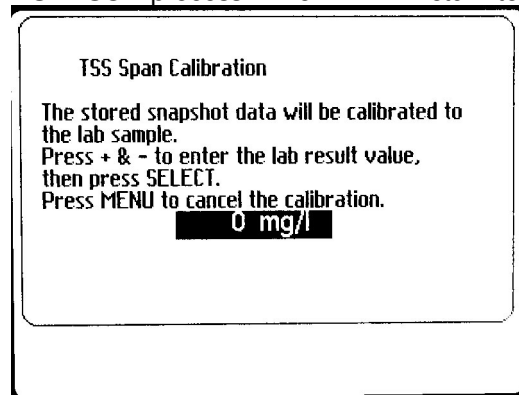

Figure 33 - TSS Span Calibration
4. On the TSS SPAN CALIBRATION screen (Figure 33), use the + or – keys to change the highlighted value to agree with the laboratory TSS value. Press SELECT to complete the SPAN SENSOR process. The PT2 will return to the previous menu.